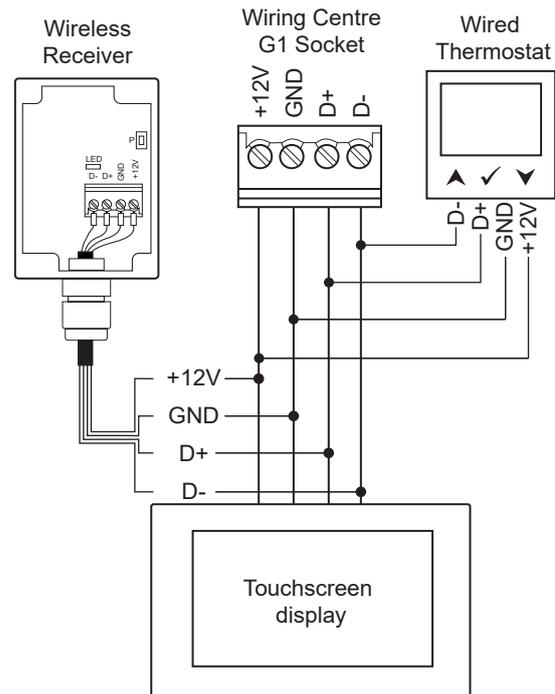

Figure 5-6: Wired and Wireless wiring schematic
- Remove the front of the sensor housing. (Refer to Figure 5-6). Position the rear part of the housing against the wall, mark and drill fixing holes.